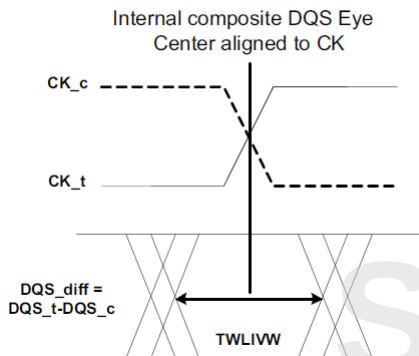

Figure 25. DQS_t/DQS_c to CK_t/CK_c timings at the DRAM pins referenced from the internal latch
- 28) t_{WLIVW} is defined in a similar manner to t_{dIVW_Total} , except that here it is a DQS input valid window with respect to CK. This would need to account for all VT (voltage and temperature) drift terms between CK and DQS within the DRAM that affect the write-leveling input valid window. The DQS input mask for timing with respect to CK is shown in Figure 25. The "total" mask (t_{WLIVW}) defines the time the input signal must not encroach in order for the DQS input to be successfully captured by CK with a BER of lower than tbd. The mask is a receiver property and it is not the valid data-eye.